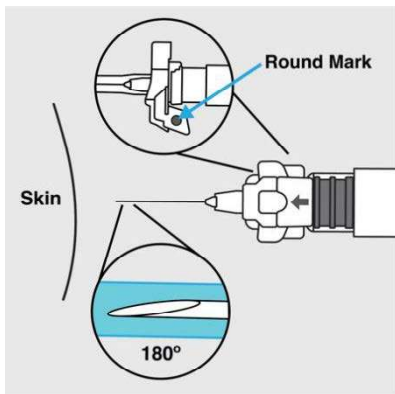

Figure 14: Pull skin taut and insert needle
- a. Gently pull the skin at the injection site taut and insert needle at a 90° or 180° angle to the skin. Before inserting the needle, check the orientation of the safety device. The arrow on the safety device should be pointed towards the patient, with the round mark directed upward. (Figure 14)